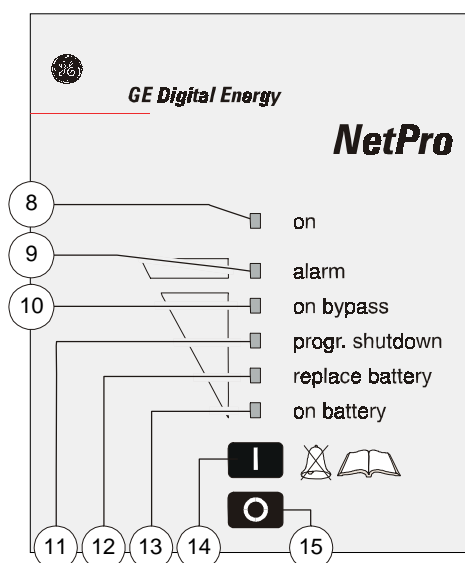

fig. 6
- 5 Connect the mains cord of the UPS to a working, grounded AC wall socket outlet. The green LED 'on' (8, fig. 6) will blink now: mains power is available and the batteries are charging. If the LED does not blink but illuminates continuously instead, press '0' for one second.
Please refer to figure 6.
- 1 Press keypad 'I' (14, fig. 6) briefly; LED 'on' (already blinking) will illuminate continuously now.
The LEDs 'on' and 'on battery' (13, fig. 6) will illuminate. The UPS operates on battery: it discharges the batteries.
- 2 Yellow LEDs will blink during 3 seconds, the number is load dependent (in case of overload LED 'alarm' (9, fig. 6) blinks as well).
- 1 Press keypad 'O' (15, fig. 6) for 1 second. If the UPS is switched off the output will always be absent for a few seconds to ensure that the connected equipment is able to reboot.